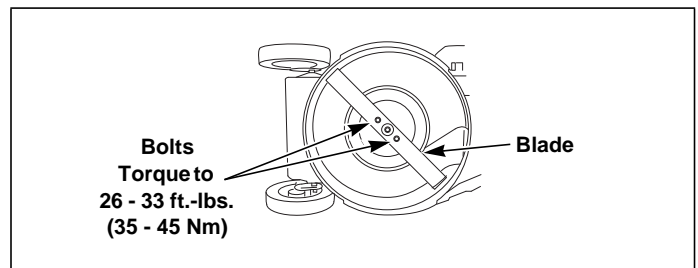

Fig. 5-4
4. Torque the blade bolts to 26.0-33.0 ft.-lbs (35-45 Nm). Fig. 5-4
4. Attach blade using the blade mounting bolts and torque between 26 - 33 ft.-lbs (35 - 45 Nm). Fig. 5-4